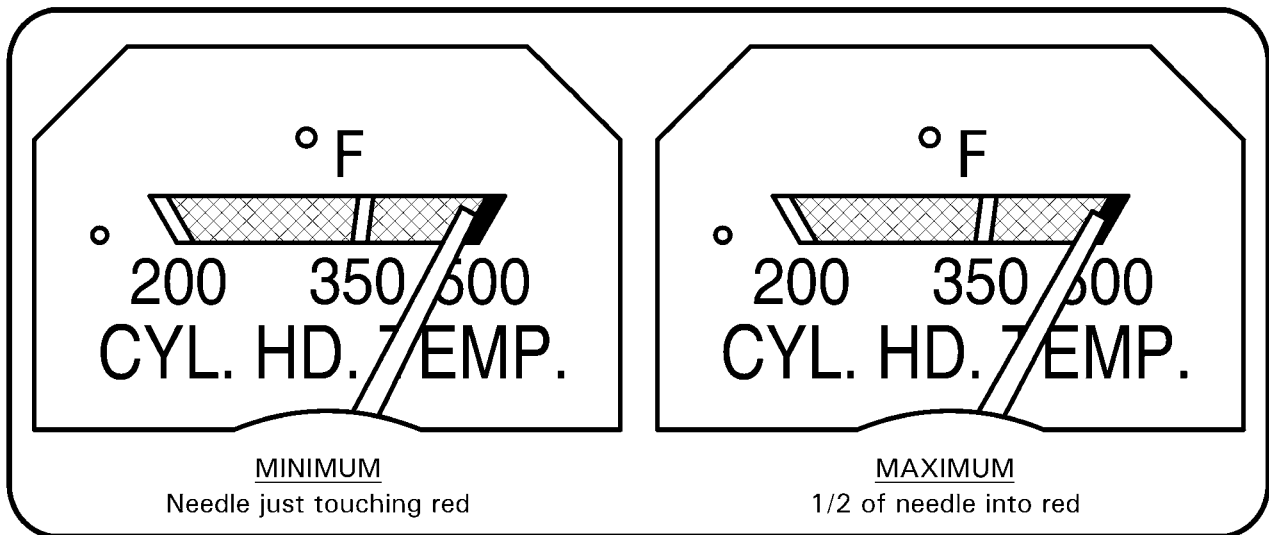

FIGURE 4
10. Refer to Figure 4. Push in “GAGES” 2-amp circuit breaker. Switch “BATTERY” on and observe CHT gage. Adjust potentiometer screw on C691-1 circuit board assembly until gage indicates within limits shown with console in closed position (CHT probe resistance is 32 ± 0.4 ohms at 500° F).